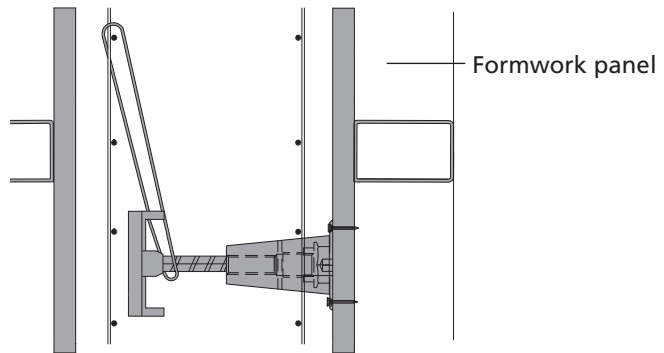

Fig. 12.2
6. Secure anchor plate to rebar by using a wire or additional rebars (Fig. 12.2).